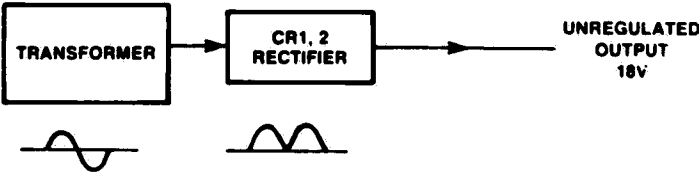

Figure 3-16. PRINTCON 18-VOLT POWER SUPPLY.
5. The +18 VDC unregulated power supply operates as follows: voltage from the full wave rectifier (CR1 and CR2) is filtered by C1. This filter circuit provides unregulated +18 VDC, through fuse F2, and is the supply for the +12 VDC regulated output, the +12 VDC power output, and the +5 VDC regulating amplifier U1 (Figure 3-16).